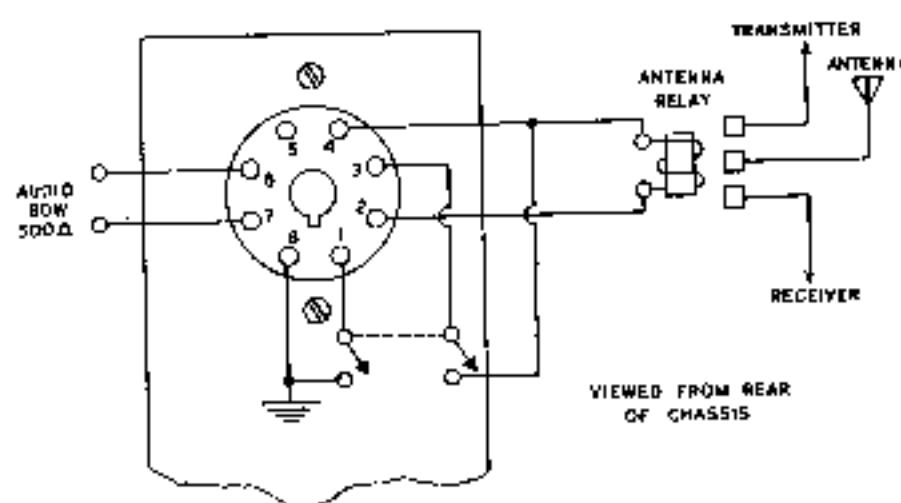

Figure 23
**REMOTE CONTROL SOCKET:** See Figure 23 for a diagram of this socket. This is the octal socket located on the back chassis apron. It provides connections for external duplication of the functions of the plate switch and provides 110 volts for antenna relay or receiver muting relay operation when the plate switch is on. In addition, audio output up to 80 watts at 500  $\Omega$  can be brought out from this socket for excitation of a higher power modulator. Pin 8 provides an auxiliary ground in the event that shielded cable is used for remote operation.